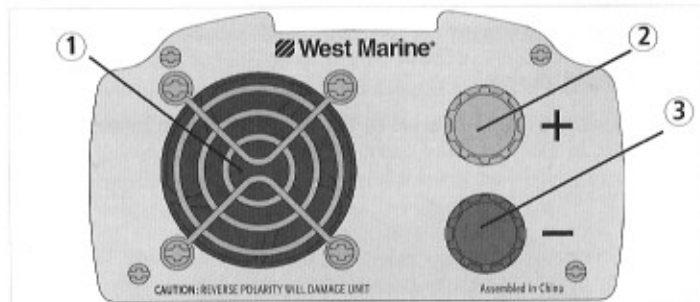

Figure 4 DC Panel of SeaVolt Power Inverter 400W and 700W
Figure 4 shows the DC panel of the SeaVolt Power Inverter 400W and SeaVolt Power Inverter 700W.
cord equipped with the lighter plug (Figure 5) and place the ring terminals over the two cabling terminals on the back of the inverter. (The cabling terminals are shown in Figure 4.)
3. Take the cables equipped with battery clips on one end (Figure 6) and place the ring terminals over the two cabling terminals on the back of the inverter. (The cabling terminals are shown in Figure 4.)